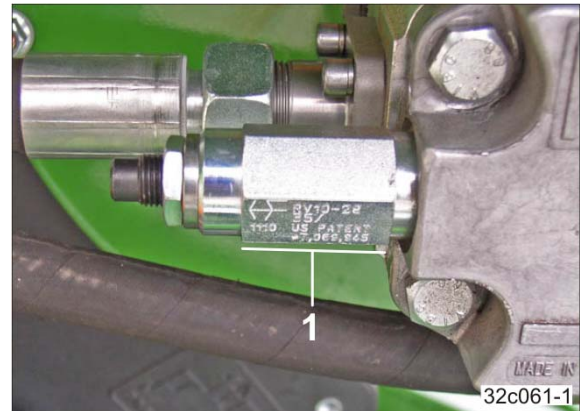

Fig. 160
- with hexagonal outer contour (Fig. 160/1).